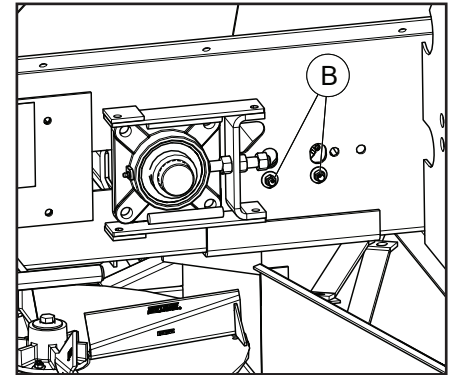

Figure 3
2. Figure 3 - Snubber pulley must be secure and square to conveyor bottom. Verify bearings are equally positioned in height adjustment between each side. Loosen hardware (B) and adjust as necessary.